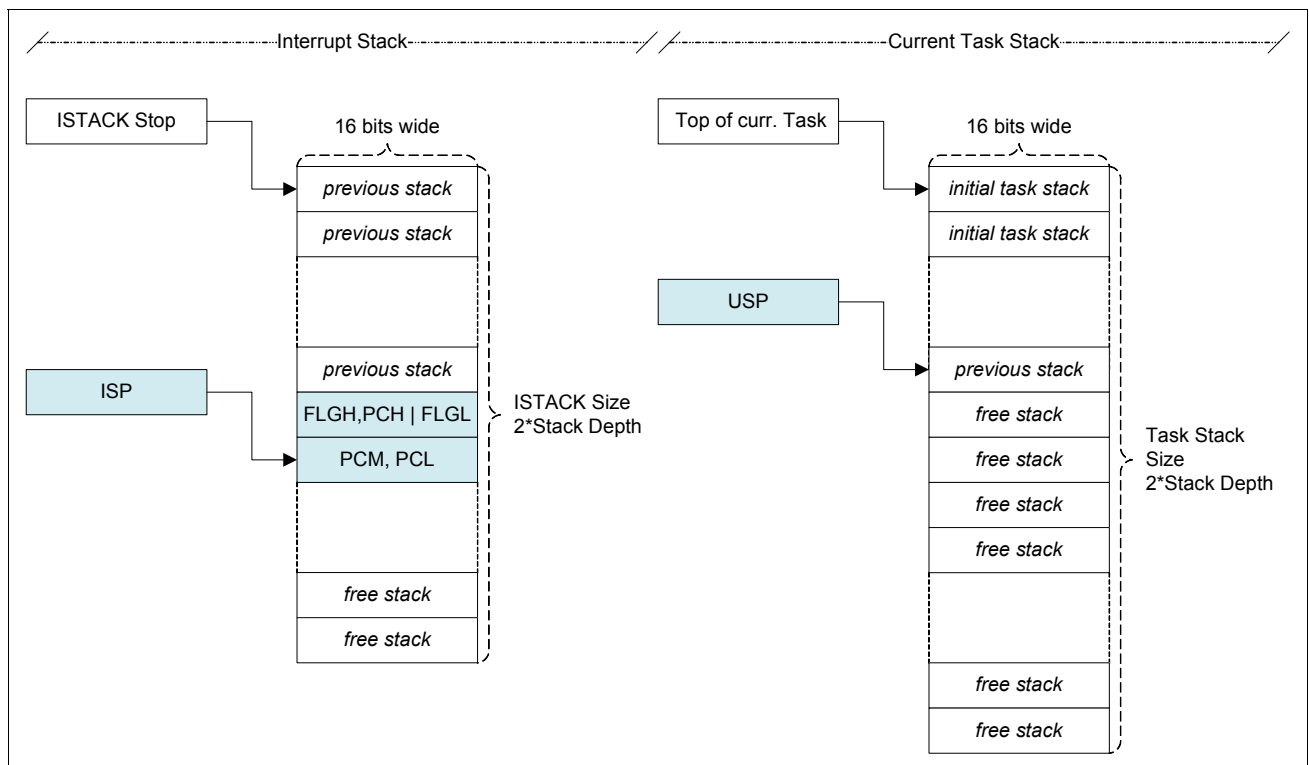

Figure 2 Interrupt- and User Stack Situation at Entry to Interrupt Service
- Execute yield interrupt sequence. See `portYIELD()` and Figure 2.
From the interrupt execution sequence described above, at entry of yield interrupt handler we find the situation on task and interrupt stack as depicted in Figure 2.